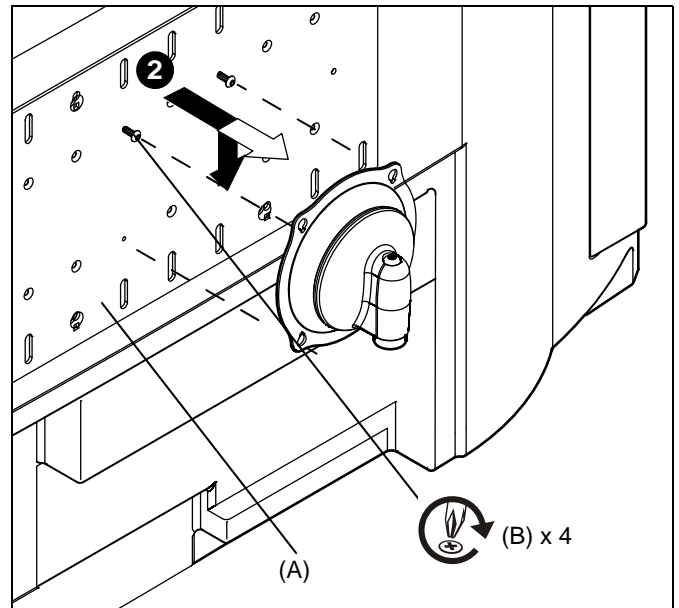

Figure 3
1. Start two M4 x 8mm Phillips pan head screws (B) into top mounting holes on interface bracket (A). (See Figure 3)
2. Align two screws in interface bracket (A) with upper mounting holes in Centris cup and lower display until screws are seated in lower area of teardrop mounting holes. (See Figure 3)